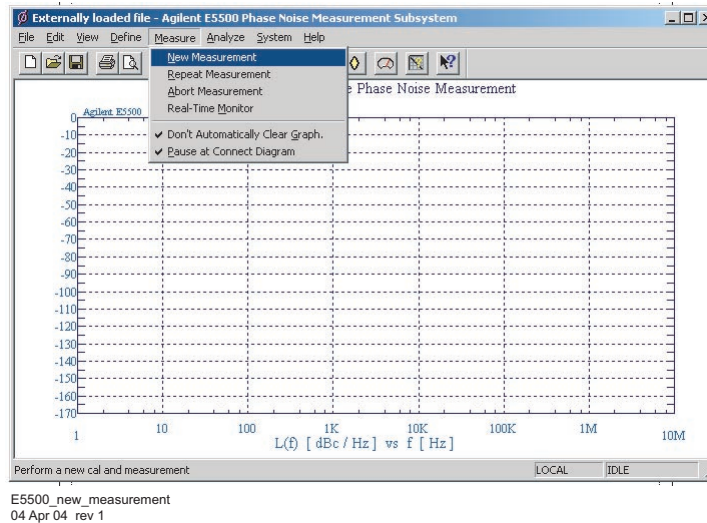

Figure 250 Selecting a new measurement
- 1 From the **Measurement** menu, choose **New Measurement** See Figure 250.